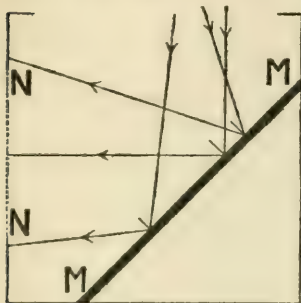
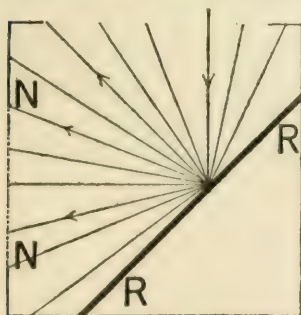

FIG. 7
FIG. 9
surface is called upon to reflect rays which reach it at all degrees of angle. Hence it will reflect many rays in a direction along which they never reach the negative. Fig. 7 illustrates this point, NN being the negative and the lines showing the subsequent paths of rays falling on the mirror MM at different angles.
**Illumination** (page 378). If you look again at Fig. 7, you will realize that the action of a reflector of white blotting-paper differs from that there represented in that each direct ray is not reflected along a certain definite path, but is broken up into innumerable minor (i e., feebler) rays going in all directions. Fig. 9 illustrates this difference by showing the diffusion of light from only one narrow pencil of rays. Imagine this action to be taking place from every particle in the surface of the blotting-paper and you will understand that the illumination of the negative differs from that from a mirror in the fact that rays of light fall upon it and pass through it at
The alternative to diffusion by the safelight is to put the light itself out of sight and transmit its rays by a diffusive reflector (Fig. 9). Dr. Mees did in fact embody both methods in